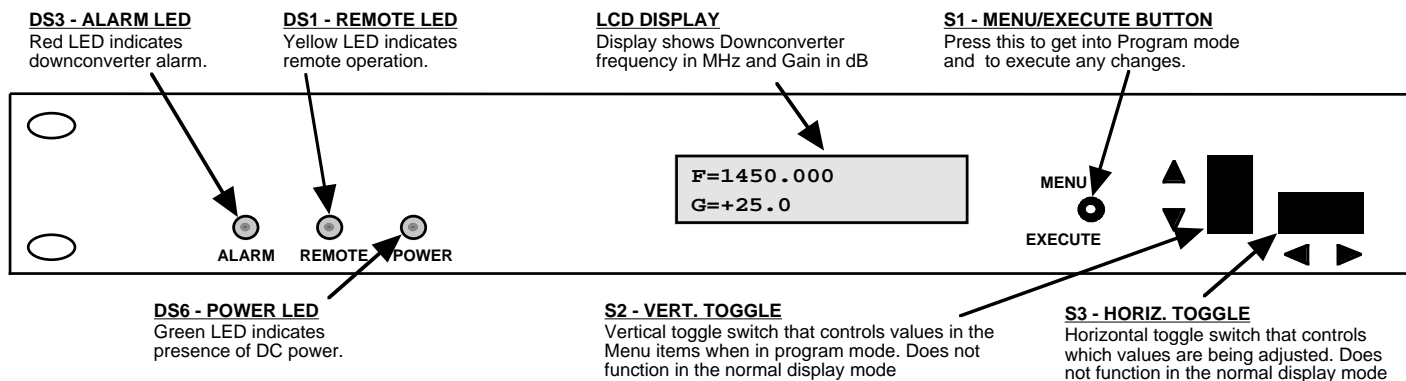

FIGURE 2.3 2016-22 Front Panel Controls and Indicators
Figure 2.3 shows the front panel controls and indicators.
6. Be sure DS6 (green, DC Power) is on and DS3 (red, Alarm) is off (Figure 2.3).
Alarm indications appear on the LEDs (see figure 2.3).